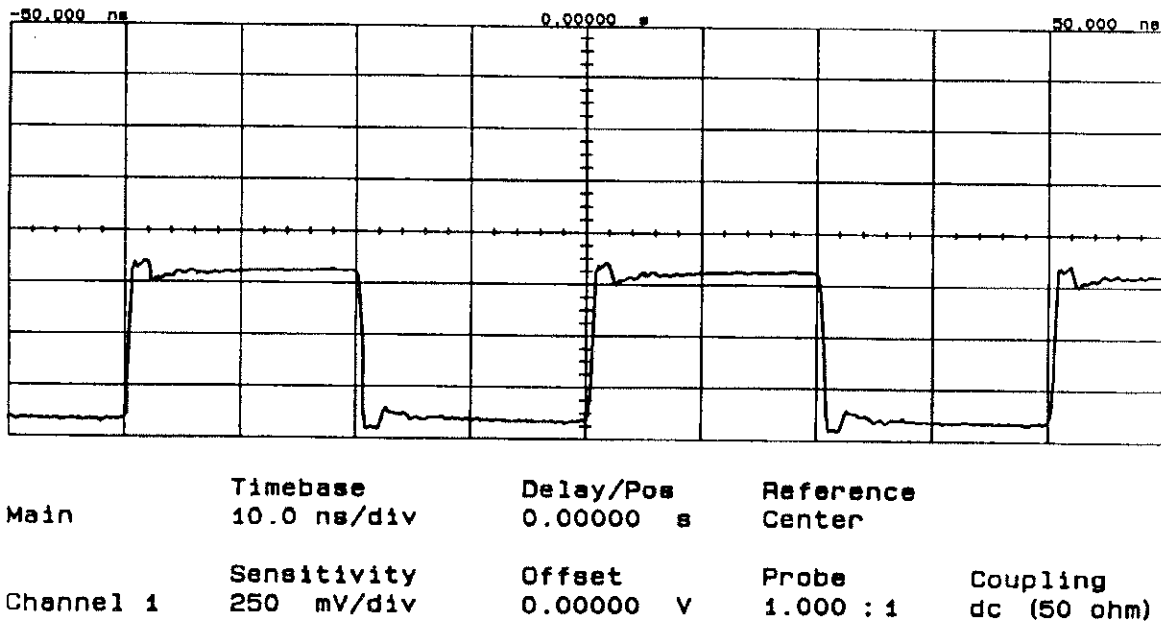

Figure 12-1. Waveform at A20J2(1)
The overall functionality of the A20 assembly is checked by applying a 100 MHz, -10 dBm signal to the Channel C input, and verifying that the A20 assembly output, A20J2(1), is approximately 25 MHz, ≥ 600 mV (see *Figure 12-1*). The procedure to verify correct operation of the A20 assembly is as follows:
- A. Using an HP 3458A, verify the voltages at A20U6(1) and A20U6(11) are both between -1.2 V and -1.4 V. If either of the voltages are not correct, then replace A20U6.
- C. Verify the voltage at A20U6(8) is approximately -5.2 V. If the voltage is not correct, then verify the voltage at the -5.2 V test point on the A9 assembly is correct. If this voltage is not correct, then proceed to the A9 Double and A10 Triple Regulator Adjustments, located in chapter 3.
- D. Perform Steps A through G of the A20 Troubleshooting Approach to verify the signal at A20J2(1) is approximately 25 MHz, ≥ 600 mV (see Figure 12-1). If the signal does not have the correct frequency or is less than 600 mVp-p, then replace A20U6.